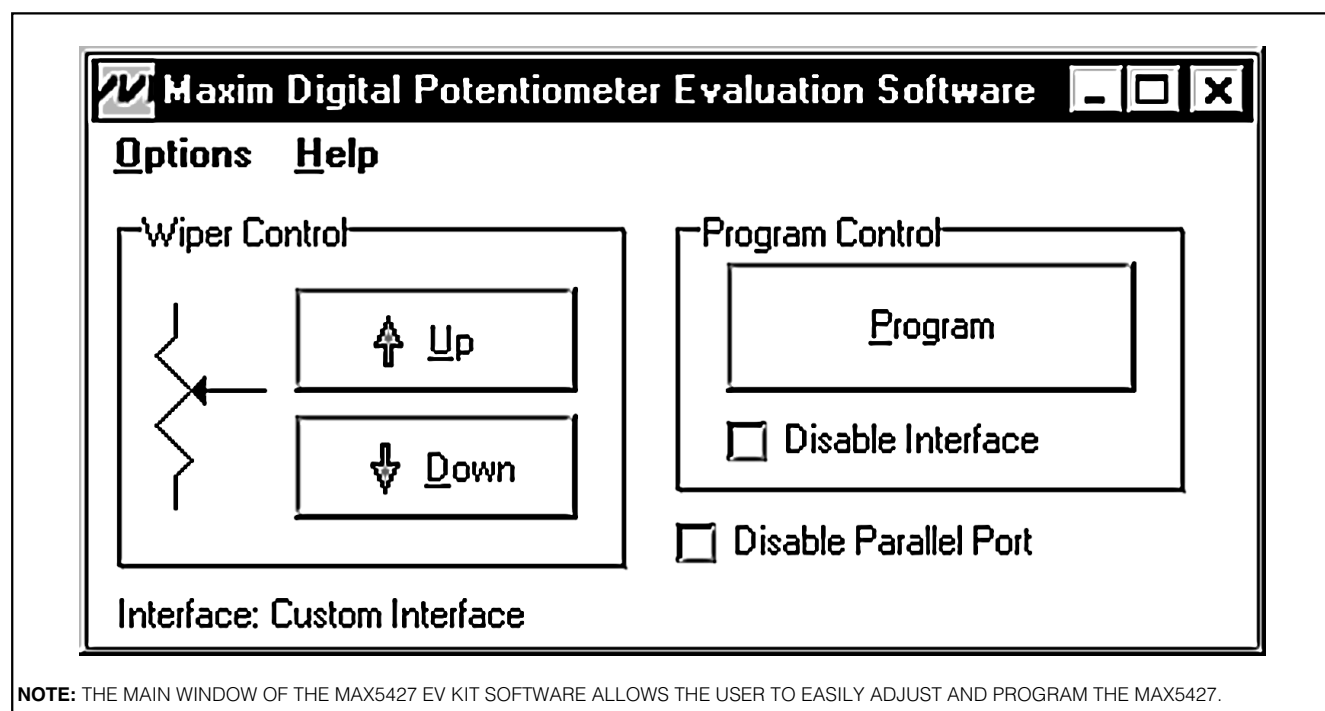

Figure 1. MAX5427 EV Kit Software Main Window
- 15) Wait until the program automatically detects the MAX5427 and displays the main window (Figure 1). The MAX5427 is now in its default power-on-reset (POR) mode (wiper is at midscale for an unprogrammed device).